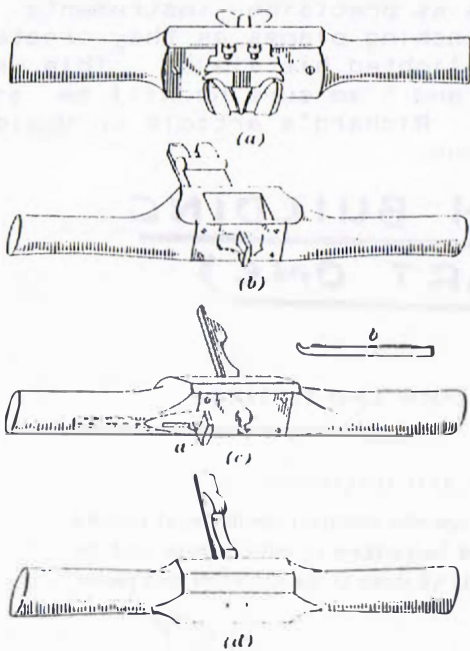

FIG. 2
2. **Routers.**—Some of the special routers that are used are illustrated in Fig. 2. The side router, or jigger, (*a*) is used for grooving the curved parts of body frames to receive the panels, leaving sufficient wood between the cutter and the outside of the frame to form the mouldings. With this tool the grooves are formed by hand in such portions of the work as cannot be